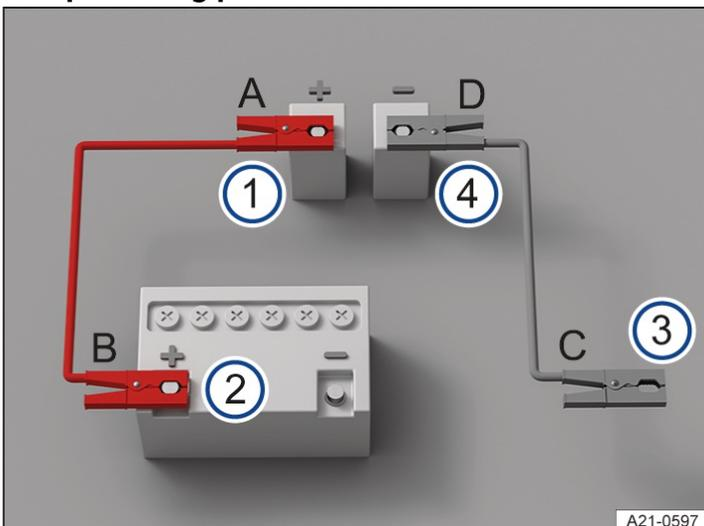

Fig. 1 Schematic diagram of how to connect the jump leads.
Connect the jump leads only in the order A – B – C – D → Fig. 1.
3. Connect one end of the red jump lead to the positive jump-start connection point(+) of the vehicle with the discharged 12-volt vehicle battery → Fig. 1 ① → ⚠.
4. Connect the other end of the red jump lead to the positive battery terminal(+) of the vehicle providing assistance → Fig. 1 ②.
5. Connect one end of the black jump lead preferably to an earth jump-start connection point(-) on the vehicle with the 12-volt vehicle battery providing assistance → Fig. 1 ③.
Or: if no earth jump-start connection point (-) is present, connect the end of the black jump lead to a solid metal part that is securely bolted onto the cylinder block or to the cylinder block itself on the vehicle with the 12-volt vehicle battery providing assistance → Fig. 1 ③.
6. Connect the other end of the black jump lead to the earth jump-start connection point(-) on the vehicle with the discharged 12-volt vehicle battery → Fig. 1 ④ → ⚠.